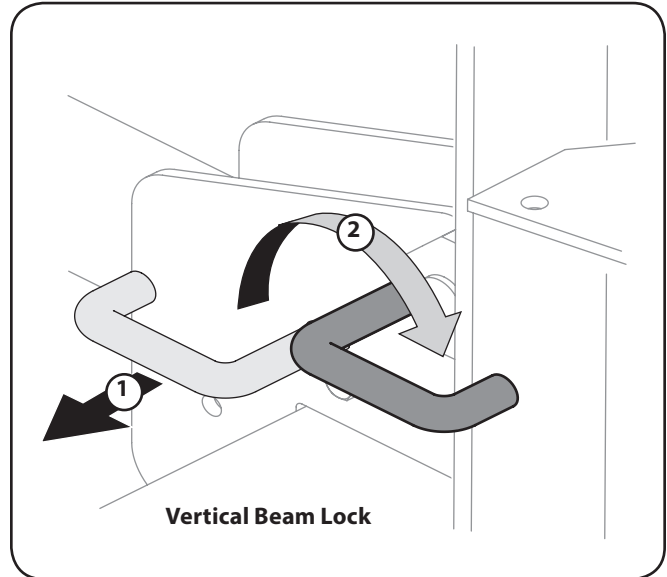

Figure 5-2
- b. To lock the beam in the vertical position, pull vertical beam lock out and rotate it to secure the beam. See Figure 5-2.